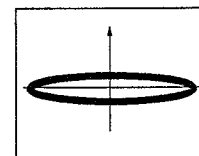

Fig. 2
4. Fine-adjust the grating so that the Y-axis amplitude of the Lissajous figure is minimized. (Fig. 2)
9. Re-open the TRKG servo and observe the Lissajous figure to check that the Y-axis amplitude is minimum. (Fig. 2) If the Y-axis amplitude of the Lissajous figure is larger than specified, repeat the adjustment procedures from steps 5 to 8.
10. After adjustment is complete, perform the adjustment in "8. Spindle Motor Centering Check" item 6.